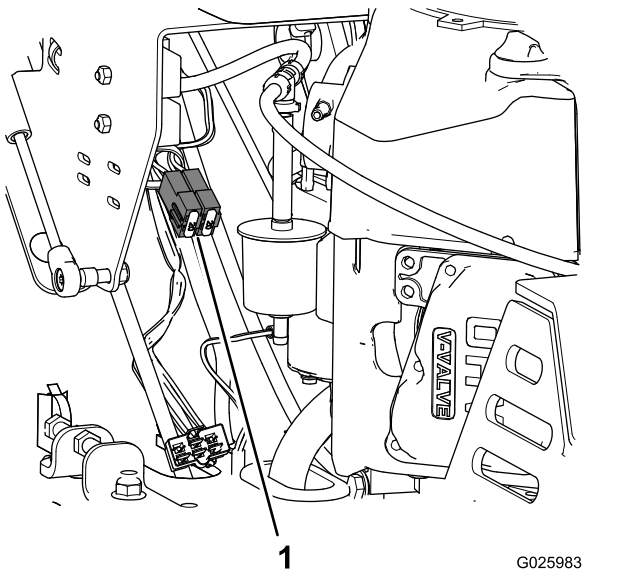

Figure 40
3. Pull the fuse from the socket of the fuse block (Figure 40).
4. Install a fuse of the same type and amperes into the socket of the fuse block (Figure 40).